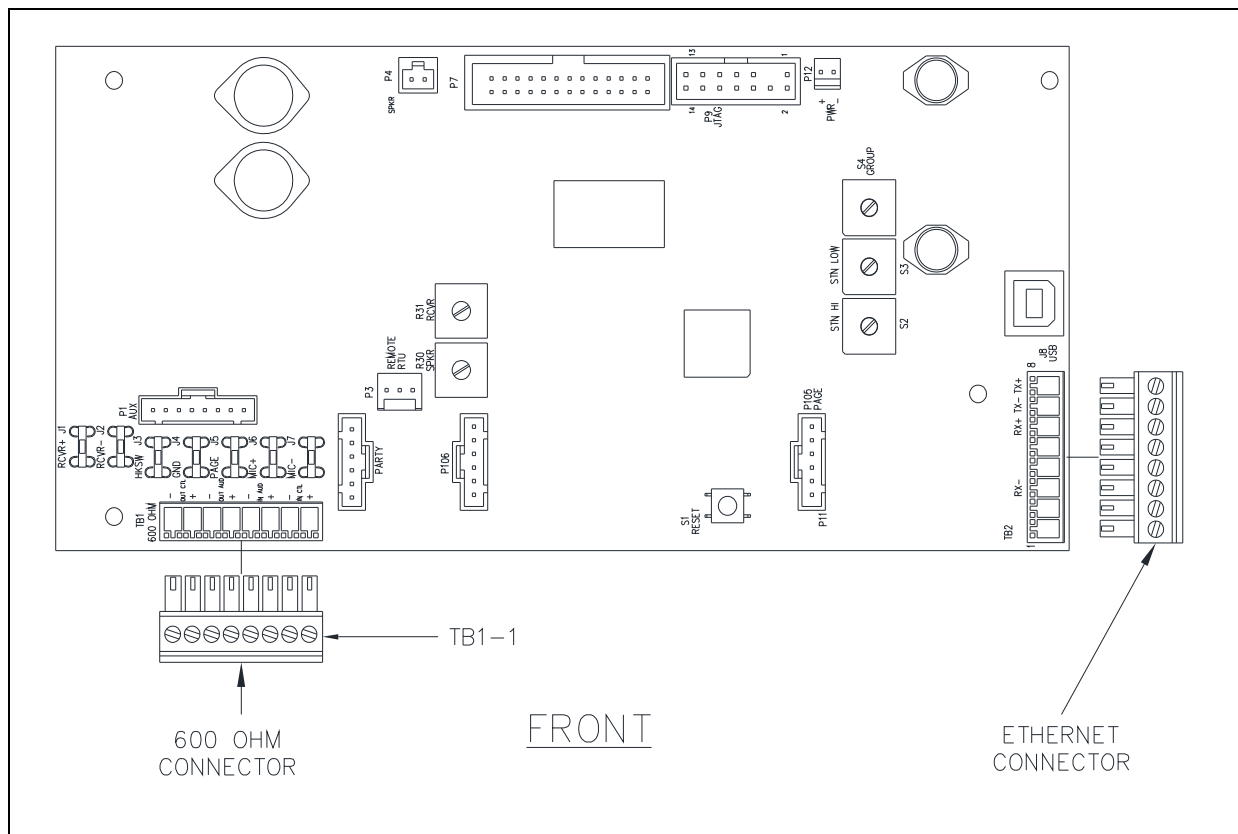

Figure 9. SP2 Main PCBA (Ethernet)
3. Connect the 600-ohm audio wires to the pluggable terminal block for the 600-ohm audio I/O connection (see Table 8 and Figure 9).
4. Connect the pluggable terminal block to terminal block TB2 (see Figure 9).